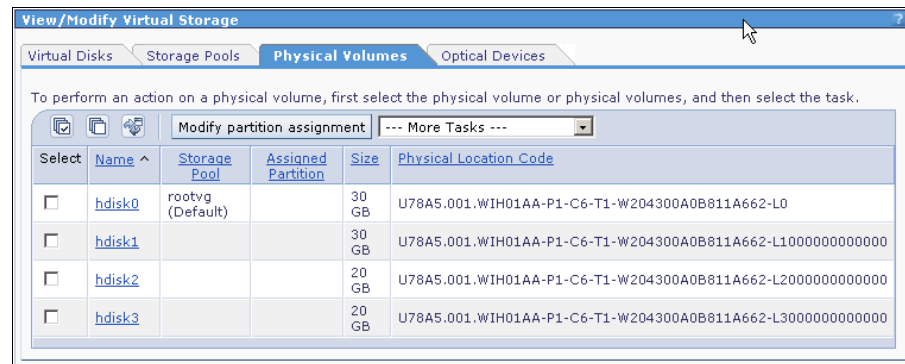

Figure 6-14 Available physical volumes
- Click the **View/Modify Storage** page on the Physical Volumes tab to see a list of available hard drives to the VIOS. Verify that the expected drives are available. See Figure 6-14.